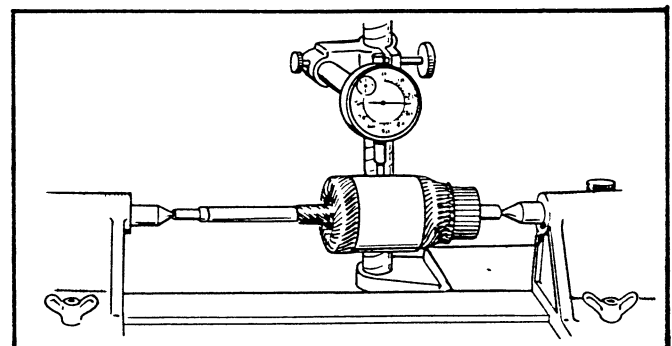

FIGURE 41. CHECKING ARMATURE SHAFT RUNOUT
5. **Testing Armature Shaft Runout.** The armature shaft as well as the commutator may be checked. See Figure 41. A bent armature often may be straightened, but if the shaft is worn, a new armature is required.